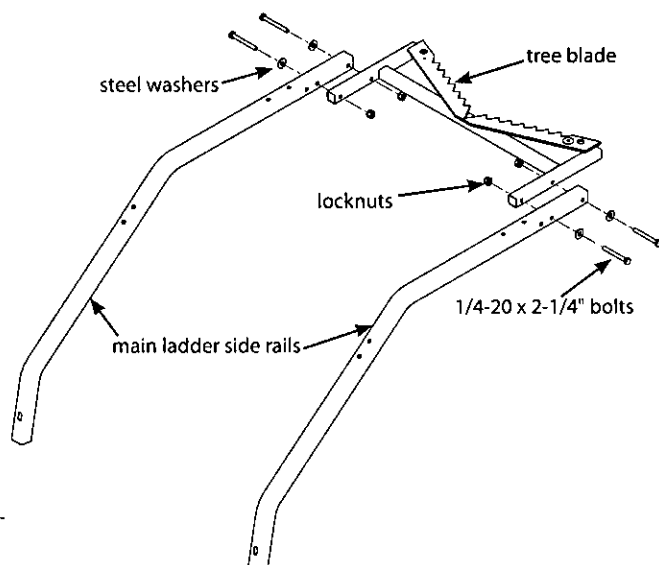

Figure 1
1. Attach the tree blade (10344) to the main ladder side rails (10346) using (4) provided 1/4-20 x 2-1/4" bolts, locknuts and steel washers. **SEE FIGURE 1. DO NOT tighten all nut and bolt assemblies completely!**